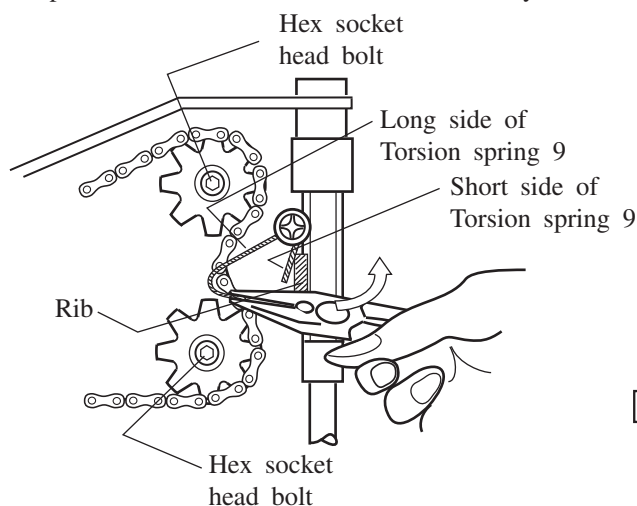

Fig.2
(See Fig.2.)
- (3) Hitch long side of torsion spring 9 to chain, gripping it with nippers. (See FIG.2.)
- (4) Tighten torsion spring 9 with screw.
- (5) Fasten 3 sprockets with hex socket head bolts firmly.